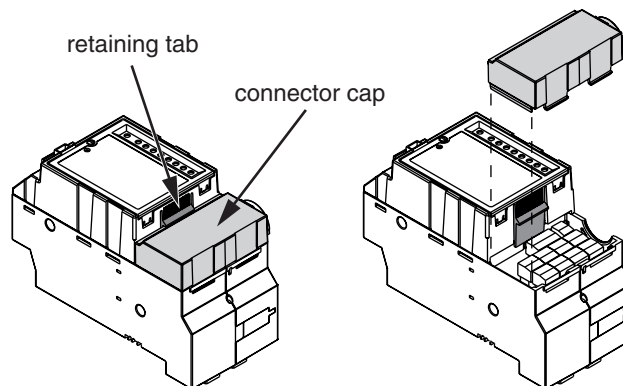

Figure 1: Removing the cap and mounting the extension
3. To remove the existing connector cap, press down on the retaining tab securing the connector cap, then slide the connector cap up and away from the controller (see Figure 1).